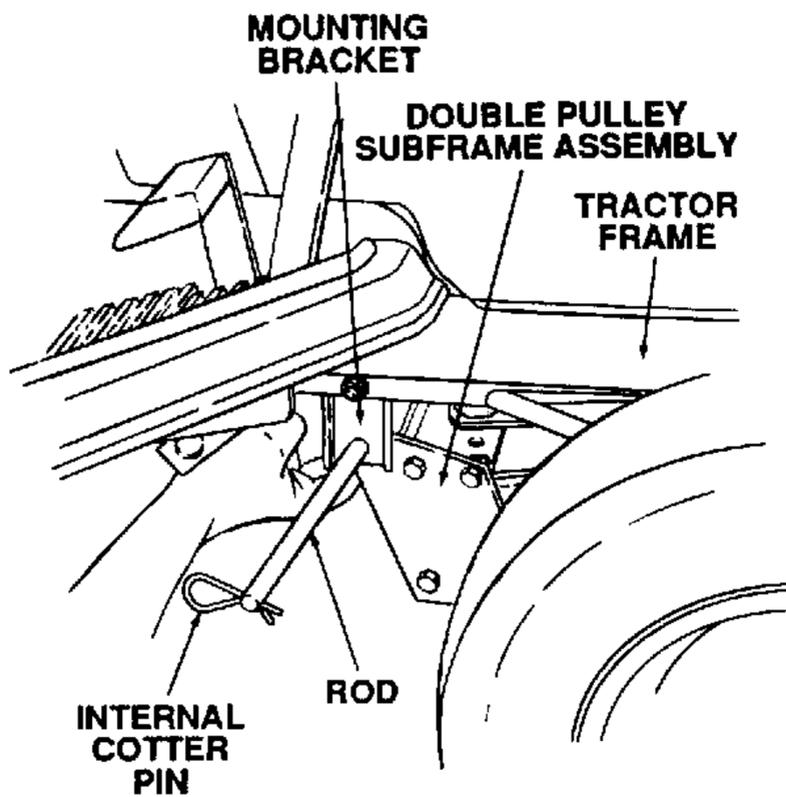

Figure 7-36. Attaching Double Pulley Subframe Assembly.
4. Install an internal cotter pin (18) into one end of the rod (19) and lift the double pulley subframe assembly up between the frame mounting brackets (15). See Figure 7-36.
5. Slide the rod (19) through the nearest mounting bracket (15), both sides of the double pulley subframe, and the other mounting bracket (15). Install the second internal cotter pin (18) into the other end of the rod. See Figure 7-36.